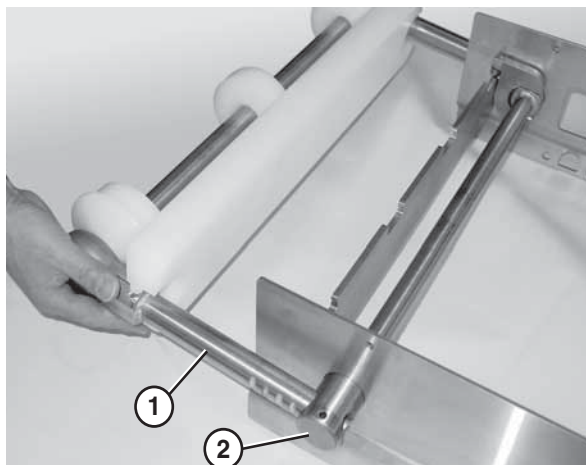

Figure 14
3. Slide the bearing shafts (Figure 14, item 1) into the holes in the tip up shaft (Figure 14, item 2).